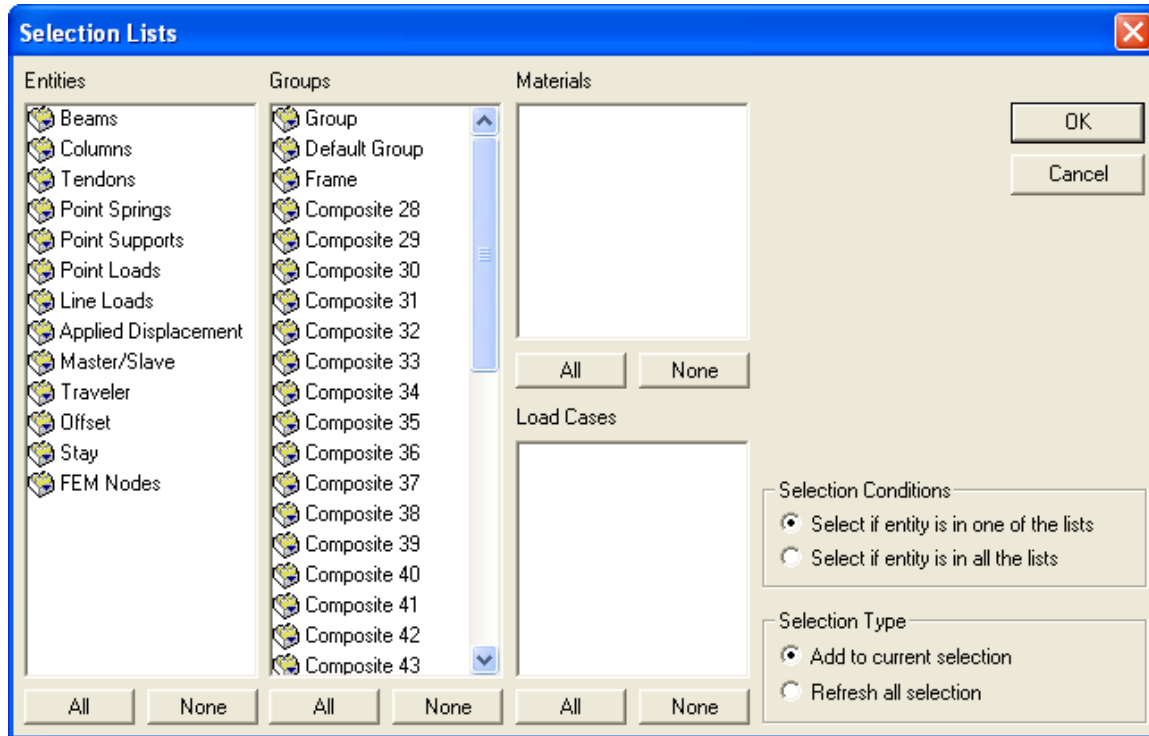

FIGURE 3.2-3 SELECTION LISTS DIALOG WINDOW
- **Edit Selection List.** This submenu item opens a dialog box as shown in **Figure 3.2-3**. Here you can select items by type, group, Materials and Load Cases.